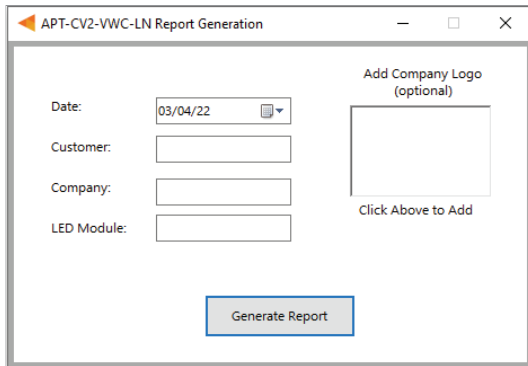

Figure 14: Report Generation window
- 1 Select **File > Generate Report**, or press **Ctrl+R**, to open the Report Generation Window (shown in Figure 14).